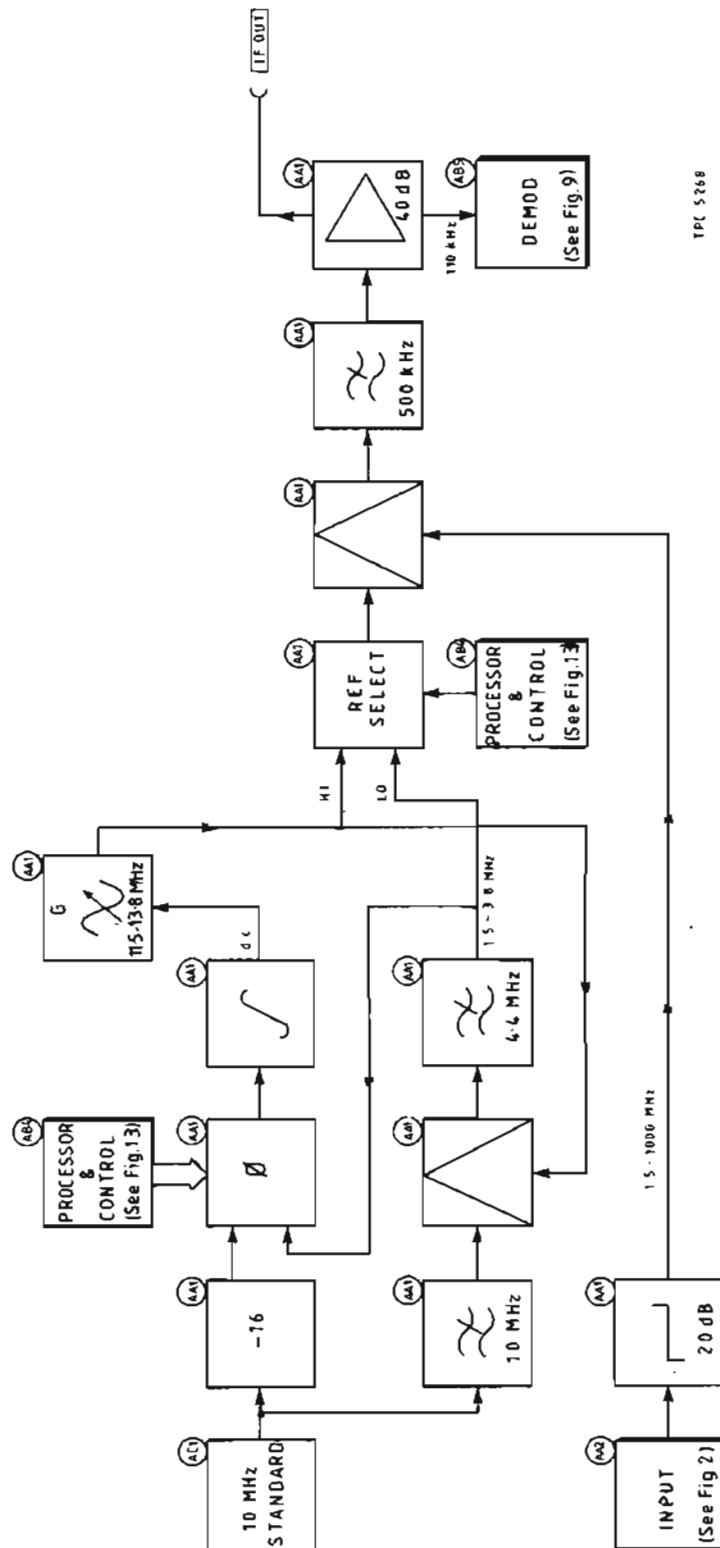

Fig. 8 Block diagram of modulation meter (showing main functions of boards)
75. The modulation meter function is implemented by board AA1 (see Fig. 8). Signal input in the range 1.5 to 1000 MHz from AA2 is connected via a 20 dB pad to a mixer. An additional 20 dB attenuator on AA2 may be switched into circuit to prevent overloading the mixer. The mixer reference input is selected from one of two frequencies. One frequency is obtained directly from an 11.5 to 13.8 MHz oscillator, the other is derived by mixing the oscillator output with the 10 MHz standard from AC1. The difference frequency of 1.5 to 3.8 MHz takes two paths. One goes to the main mixer, the other is compared for phase with a divided input from the frequency standard. Comparison is done by a synthesizer chip operating under processor control. The resulting d.c. is then used to control the v.c.o. Depending upon the frequency of the input as measured by the r.f. counter, the processor on AB4 selects either the HI line or the LO line to provide the reference for the sampling gate mixer. The resulting 110 kHz i.f. is fed via a 500 kHz low-pass filter to a 40 dB amplifier. Finally, the signal is sent to AB5 for demodulation as well as to the rear panel IF OUT socket.